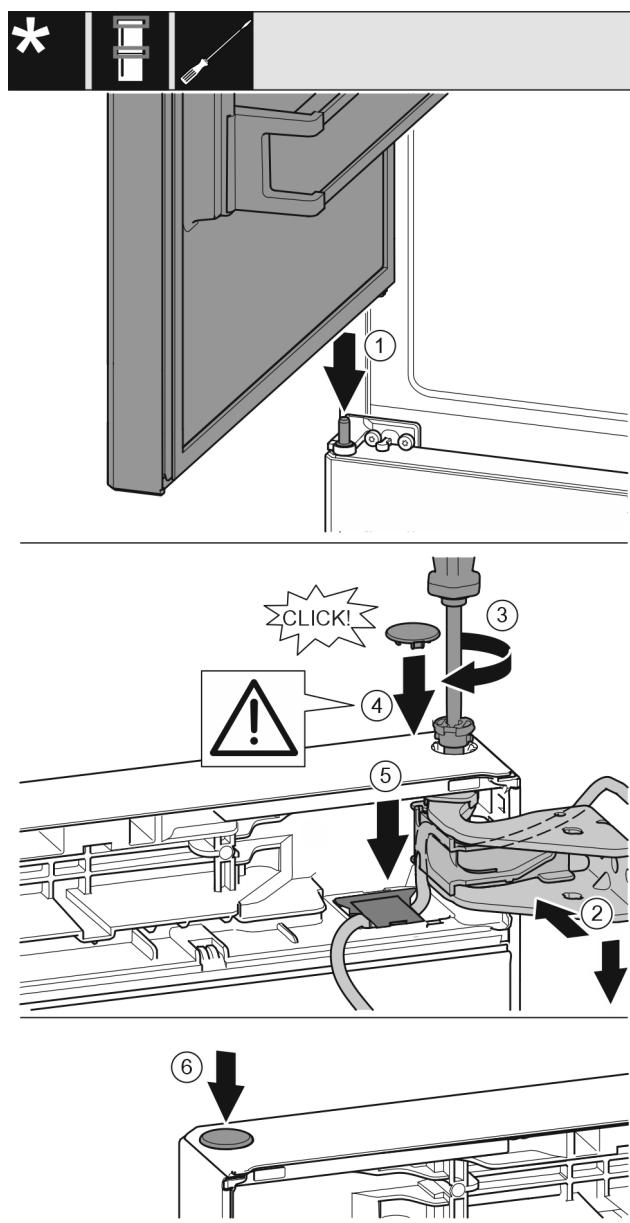

Fig. 40
- ▶ Place the upper door on the center bearing pins Fig. 40 (1)
- ▶ Align the top of the door with opening in the bearing bracket. Fig. 40 (2)
- ▶ Insert the bolt and tighten with a T15 screwdriver. Fig. 40 (3)
- ▶ Fit the protective cover to protect the door: Insert the protective cover and check that it lies flush on the door. If not, insert the bolt fully. Fig. 40 (4)
- ▶ Insert the cover and press it down until it latches into place. *Fig. 40 (5)*
- ▶ Insert the plugs. *Fig. 40 (6)*